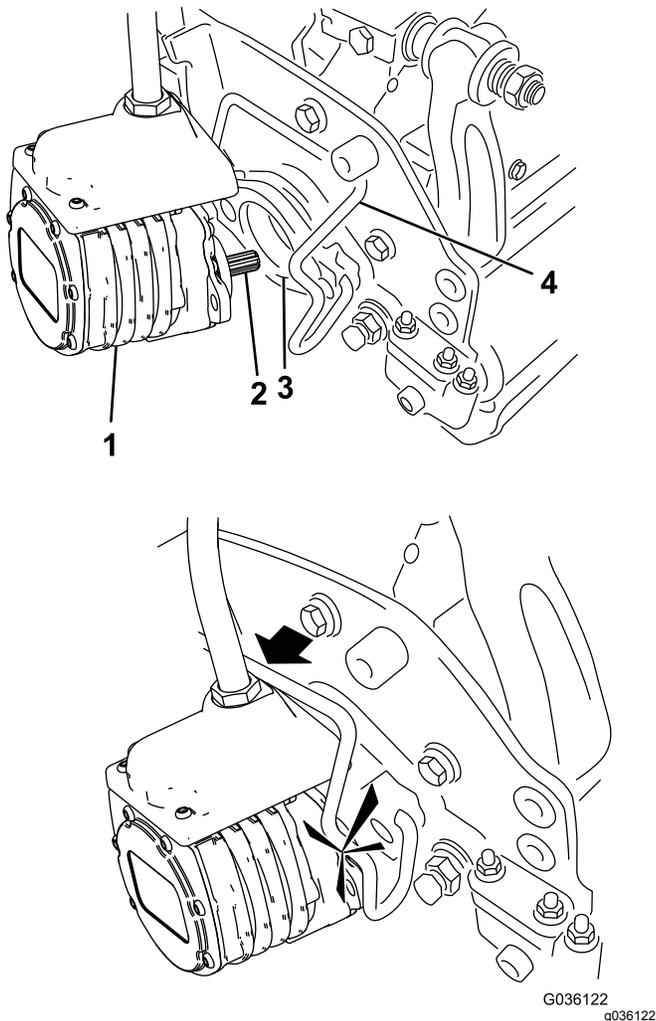

Figure 51
- Coat the spline shaft of the cutting unit motor with clean grease (Figure 51).
- Insert the motor into the left side of the cutting unit (as viewed from the operator's position) and pull the motor retaining bar on the cutting unit toward the motor until you hear a click from both sides of the motor (Figure 51).